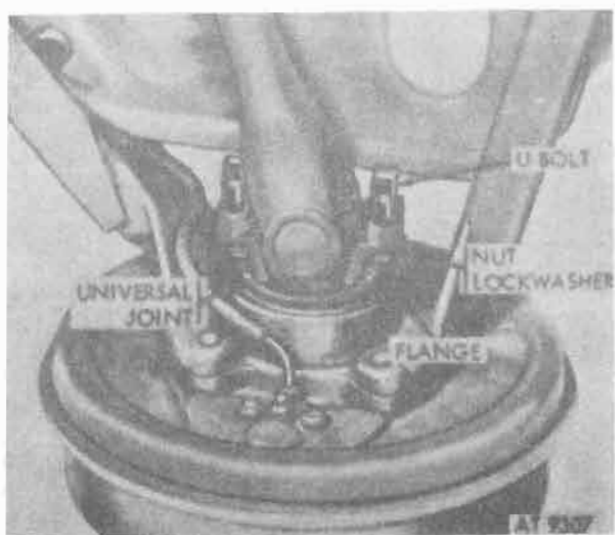

Figure 11-5. Rear wheel flange and drive shaft universal joint (M151, M151A1, M151A1C and M718 vehicles).
a. Remove four nuts and lockwashers securing wheel drive shaft universal joint to rear wheel flange (fig. 11-5, 11-6).